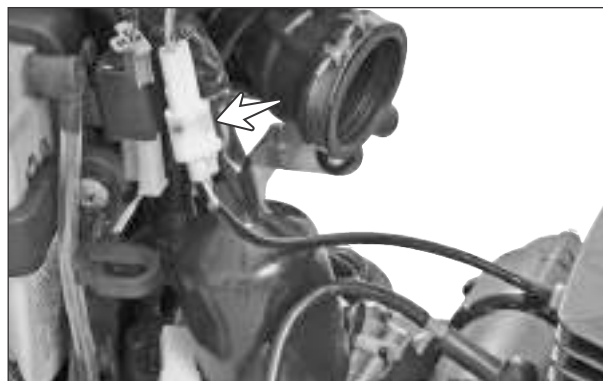

Fig. 3.78
- | Disconnect the thermal sensor wiring socket from the main wiring harness. (Fig. 3.78)